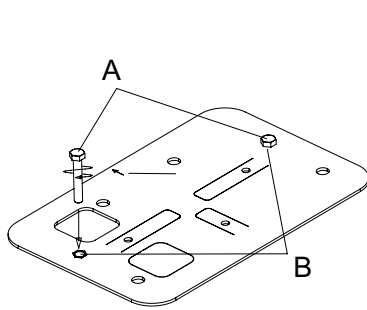

Fig. 4A
- 1) Screw the M8x50 screws (ref. A) fully into the threaded inserts (ref. B) in the plate (Fig. 4A).